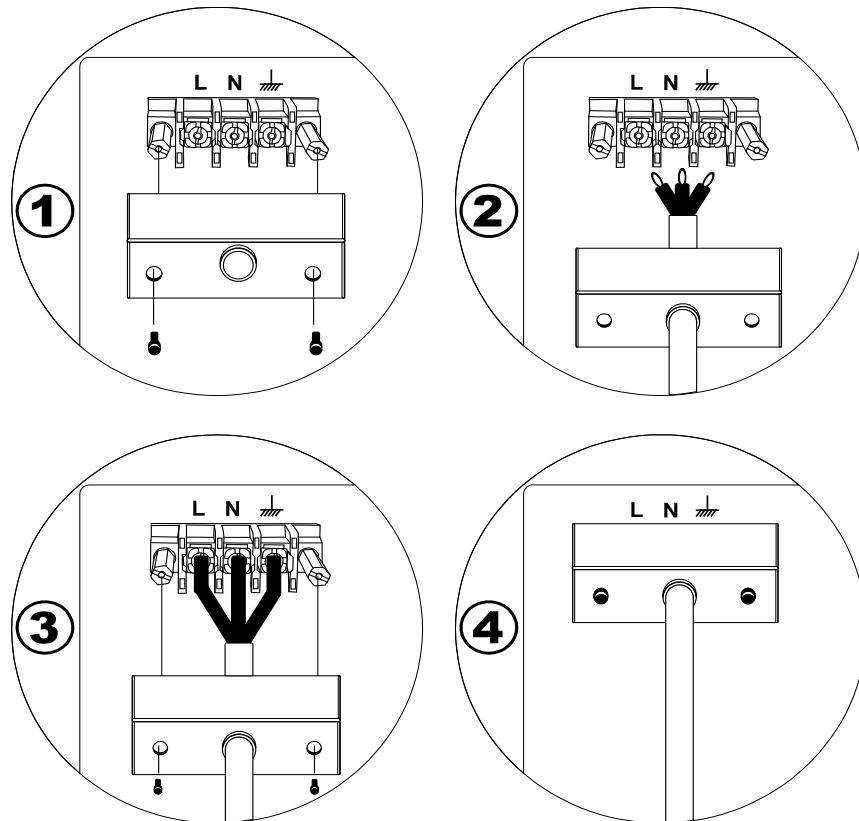
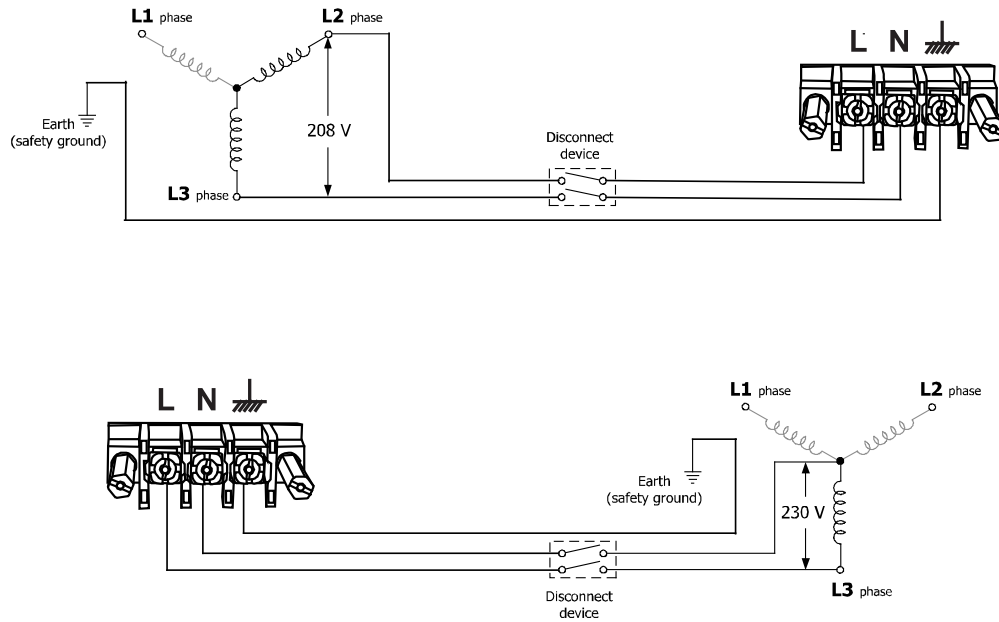

Figure 16 - AC Input Connection
Figure 17 - Single Phase Mains Connection
Please follow the steps below in Figure 16 to create a reliable and proper AC input connection, and refer to Figure 17 - Single Phase Mains Connection reference setup.
- Step 3:** Place the three wire ends of the power cord to the correct terminals. Refer to Figure 17 below for reference. Securely tighten each wire to the terminals with the screwdriver.